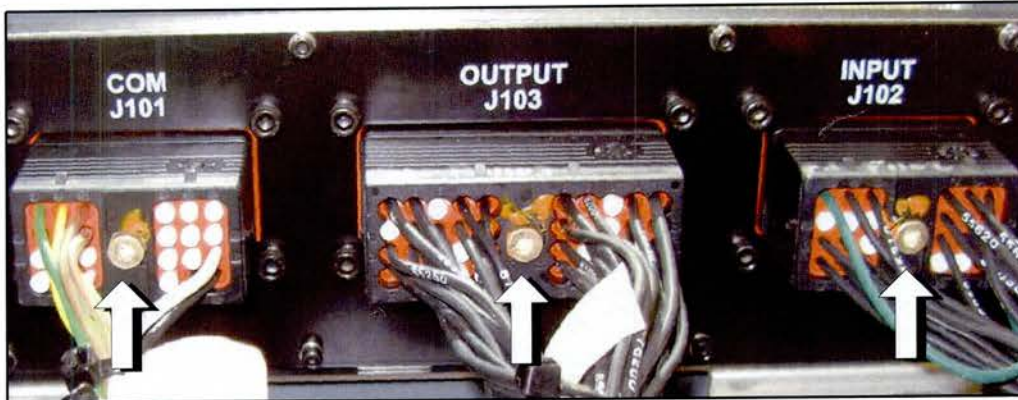

Figure 5.
11. Orient and connect connectors PMM J101, J103 and J102. Using a 4 mm or 5/32 hex wrench, torque the connector bolts to 25 in-lbs (refer to Figure 5).